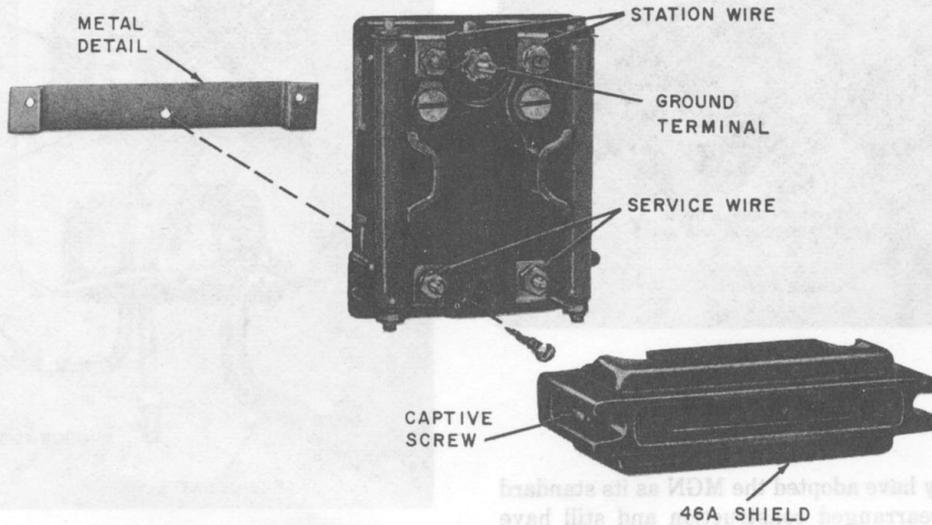
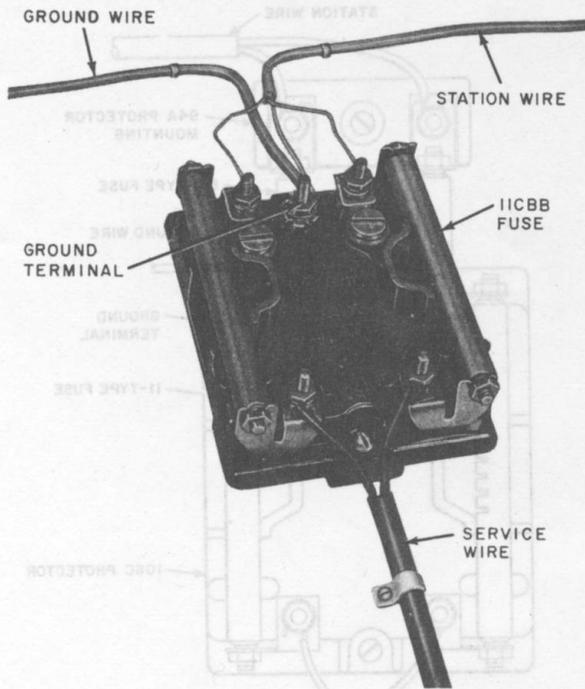

Fig. 15—Installation of 46A Shield
Fig. 16—106C Protector
**3.07** The 46A shield (Fig. 15) is used with the 106C protector (Fig. 16) when mounted in commercial boxes. When the fuses blow, the shield prevents hot gases from short-circuiting or grounding the terminals of the protector. This shield is made of insulating material containing two captive screws and a metal mounting strap.